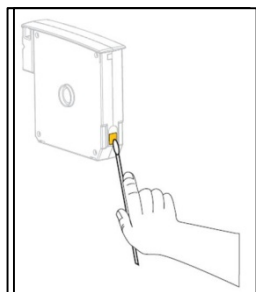

Figure 1
- 4 Refer to Figure 1. Using the cleaning swab from the Preventative Maintenance Kit, or a swab dipped in isopropyl alcohol/deionized water solution (mixed 90/10), clean the gold smart card contacts on the back of the wristband cartridge. Allow the solution to evaporate before putting the cartridge back in the printer.